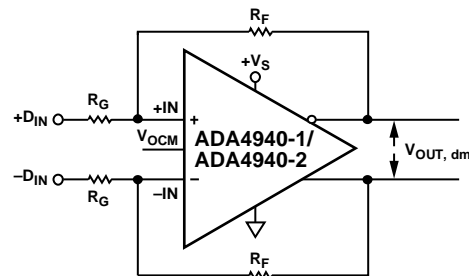

Figure 64. ADA4940-1/ADA4940-2 Configured for Balanced (Differential) Inputs
**Table 15. Differential Ground-Referenced Input, DC-Coupled,  $R_L = 1\text{ k}\Omega$  (See Figure 64)**
The effective input impedance of a circuit depends on whether the amplifier is being driven by a single-ended or differential signal source. For balanced differential input signals, as shown in Figure 64, the input impedance ( $R_{IN, dm}$ ) between the inputs (+DIN and -DIN) is simply  $R_{IN, dm} = 2 \times R_G$ .